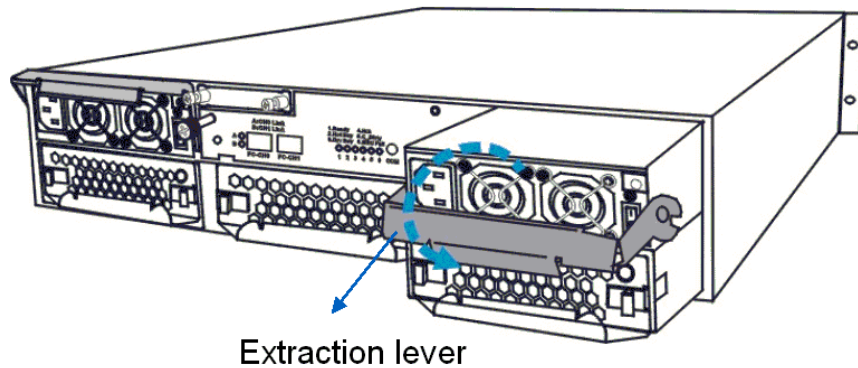

Figure 5-7: Removing the PSU Module
Step 4. **Remove the PSU module.** Push the lever at the back of the PSU module downwards. This will dislodge the PSU module from the subsystem. Once dislodged gently pull the PSU module out of the subsystem. (See *Figure 5-7*)